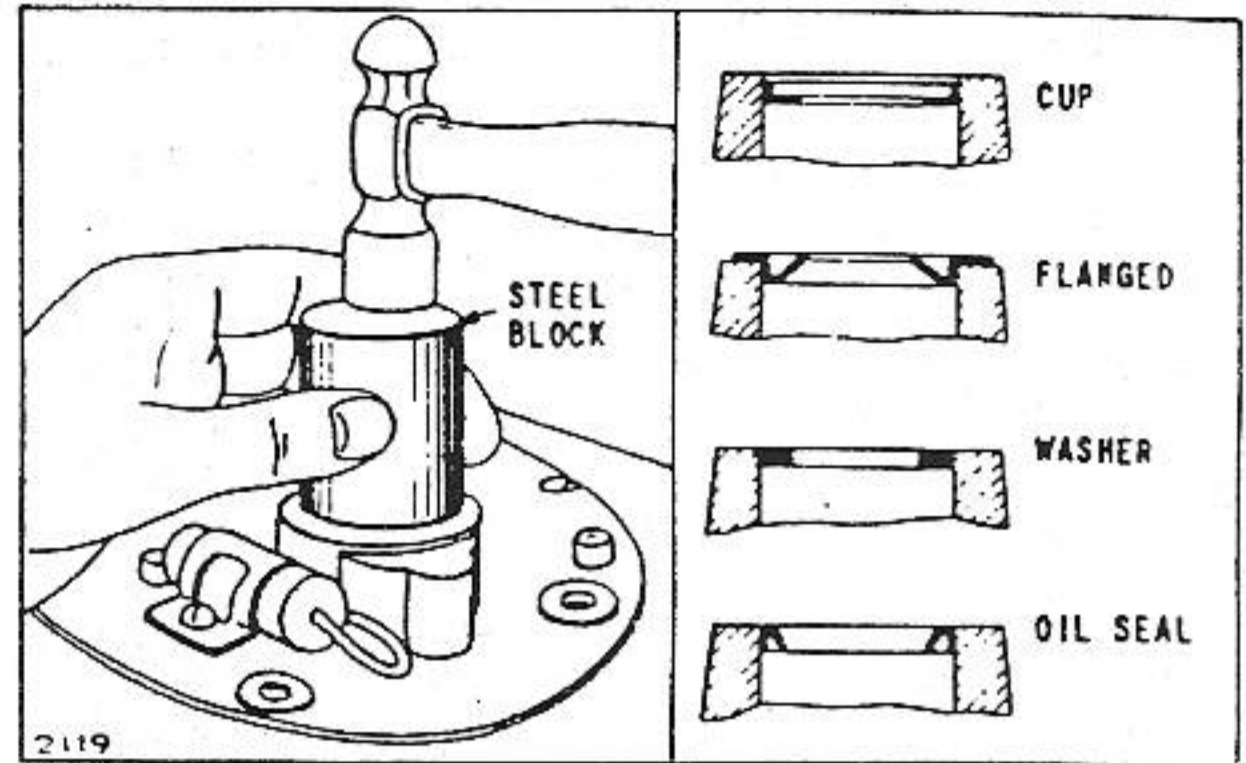

FIG. 164—BEARING OIL RETAINERS
The bearing oil retainer rings consist of four types: (1) The Flange Type, (2) The Cup Type, (3) The Washer Type and (4) The Oil Seal. Fig. 164. Extreme care must be taken to prevent damage to the oil seal when assembling the crankshaft. Fig. 146. and 165
The oil seal is assembled with the sharp edge of the leather or rubber down toward the inside of the engine. Rub leather oil seal with "Lubriplate" or equivalent before assembling. Place the retainer ring in the counterbore and either press or drive it into place. Tool No. 69282-T1 can be used where the retainer ring is driven flush. Fig. 164. There should be an air gap of .010" between the cup type and the flange type and the crankshaft journal. If not, file the retainer ring. Do not file the washer type.